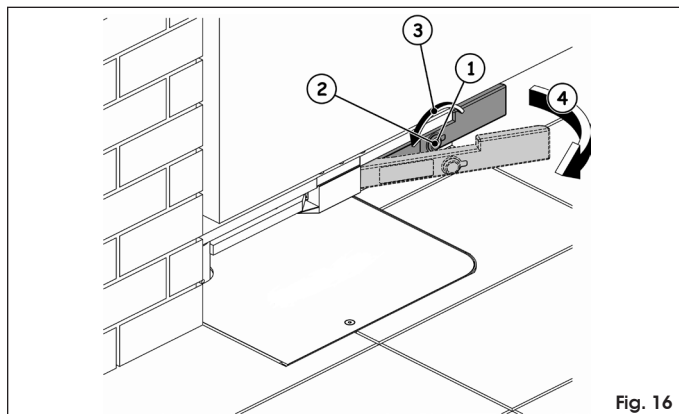

Fig. 16
- open the lid of the lock (Fig. 16 rif. ①)
- insert the release key in the lock (Fig. 16 rif. ②)
- turn the key in the direction of the post, as far as it will go (Fig. 16 rif. ③)
- pull the lever out (Fig. 16 rif. ④)